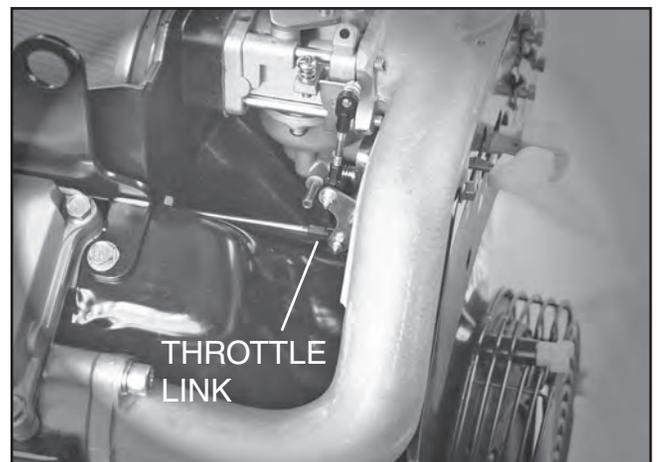

Figure 3-4. Horizontal Shaft Carburetor
6. Remove choke link (Figure 3-5), throttle link (Figure 3-4) and fuel shut-off solenoid wire from carburetor.